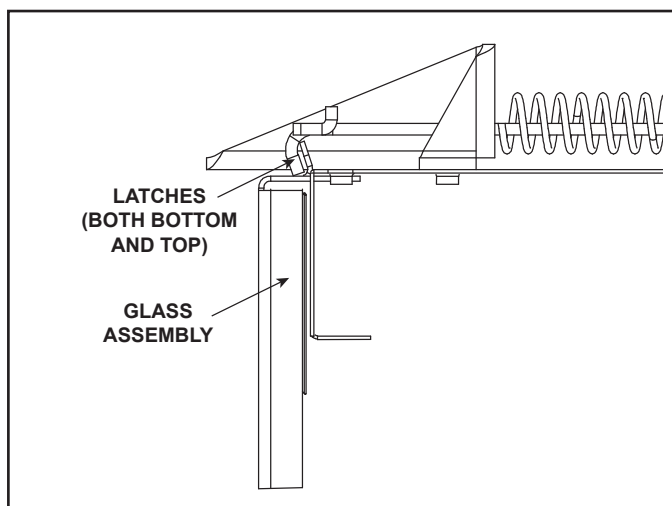

Figure 9.6 Fixed Glass Assembly
- Noting carefully how the brackets fit on the glass, release the two spring latches at the top and two at the bottom of the glass door. Carefully lift the glass up and out away from the appliance. See Figure 9.6.
- Pull the four glass assembly latches out of the groove on the glass frame. Remove glass door from the appliance (see Figure 9.6).